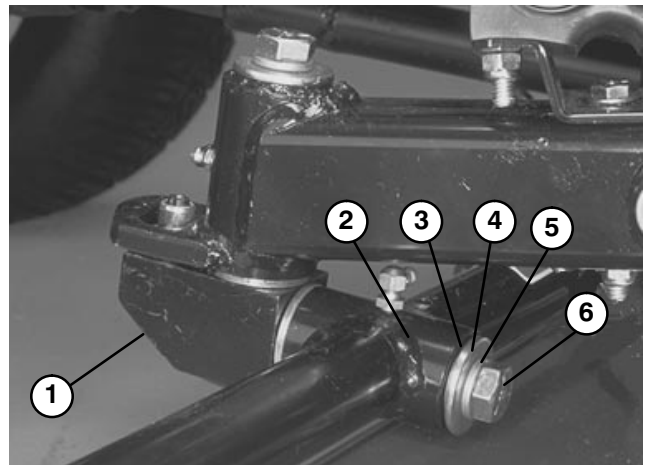

Figure 11
7. Align the mounting shaft of the cutting unit with the pivot tube on the carrier frame. Insert the shaft into the tube (Fig. 11).
8. Secure shaft in pivot tube with a thrust washer, flatwasher, lockwasher and capscrew (Fig. 11).